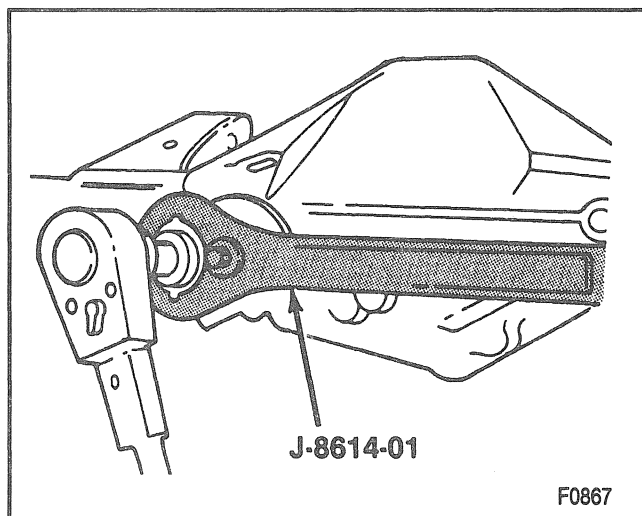

Figure 17—Removing the Drive Pinion Nut
- Position J 8614-01 on the flange so that the four notches on the tool face the flange (Figure 17).